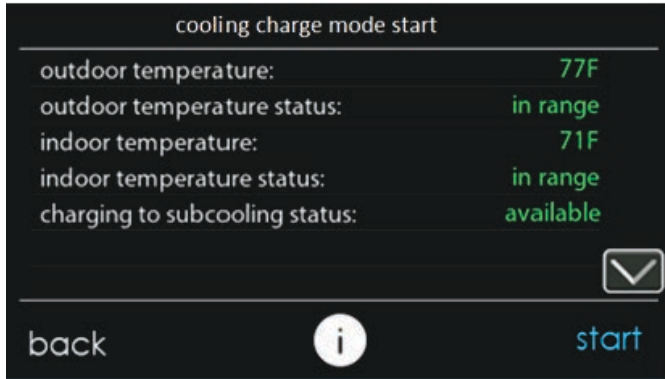

Fig. 17 – Cooling Charge Mode Start Screen - Subcooling Available A240373
- The next screen, “cooling charge mode start” is shown in Fig. 17 or Fig. 18 depending on whether subcooling charging is available. The reason for unavailability of subcooling can be viewed by pressing the down arrow to go to the second page. Before selecting “Start”, verify that the service valves are open. Pressing start will turn on the system at a fixed set of operating parameters in COOLING mode.